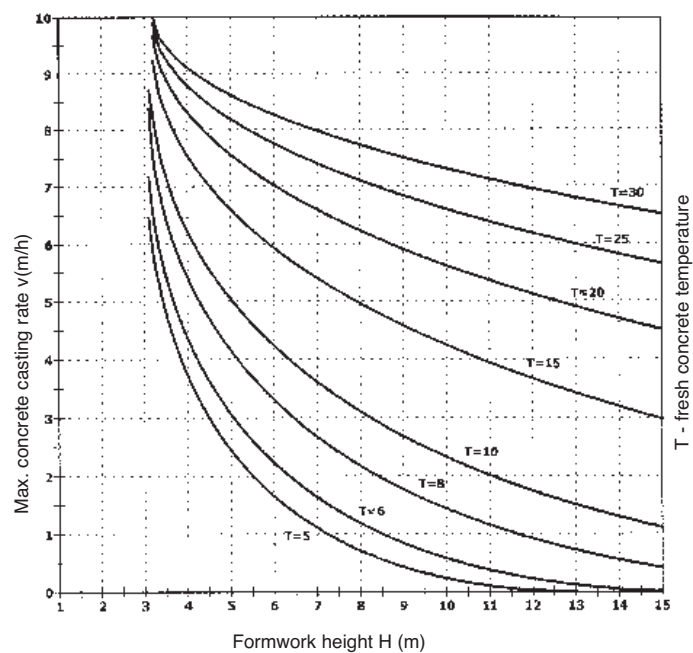

Fig. 9.3
- Fig. 9.3 is for wall concrete casting rate (with the use of MIDI BOX formwork) and concrete without retarders.